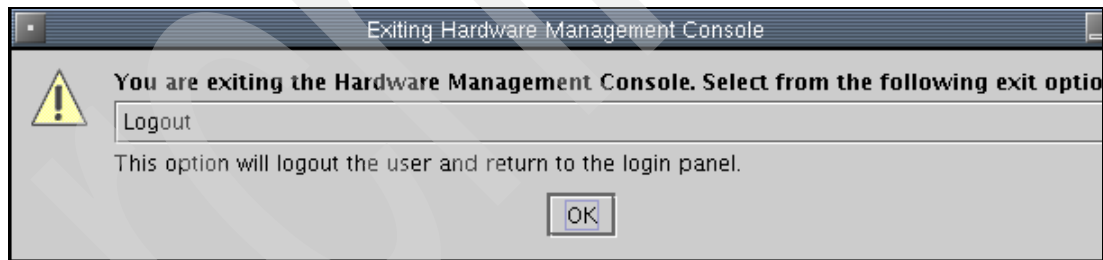

Figure 3-17 Exit HMC
3. Click **Exit**, and you are presented with a pull down menu that has Logout as default (Figure 3-17).